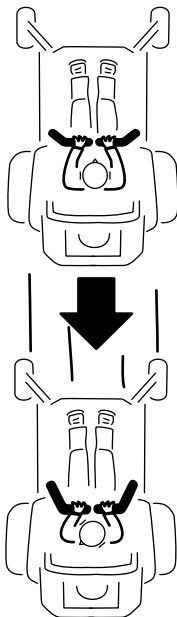

Figure 20
2. To go backward, slowly pull the motion-control levers rearward (Figure 20).